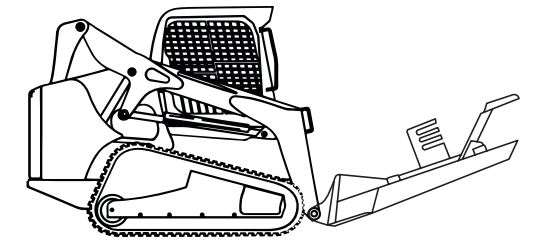

Figure 4.2b Coupler to Bracket
3. Slightly tilt the skid steer quick attach coupler up until the coupler and attachment bracket fully engage (Figure 4.2b).